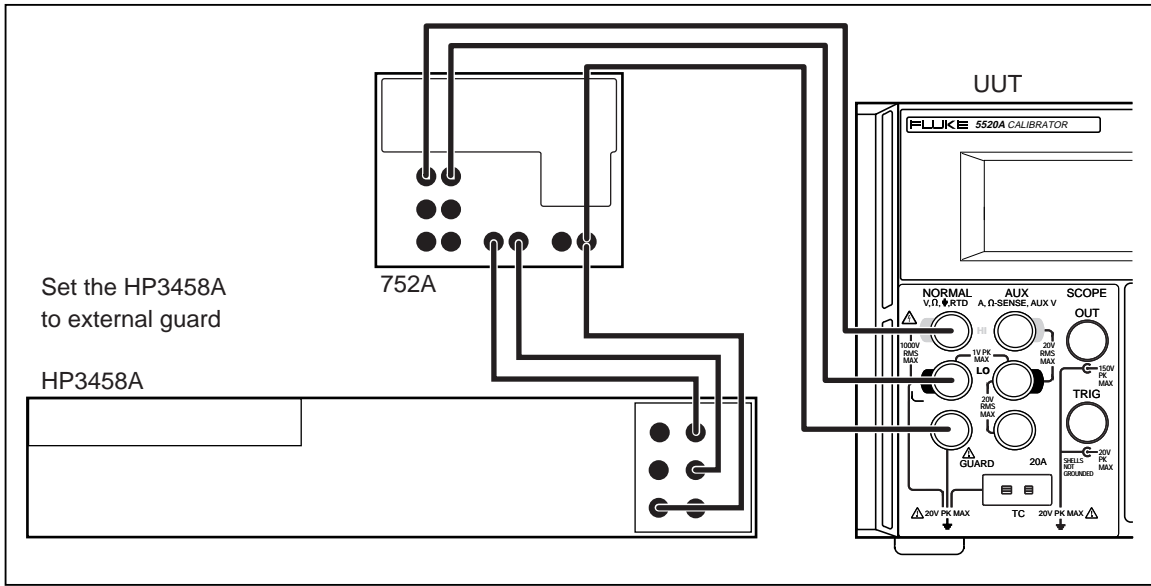

Figure 3-2. Connections for Calibrating DC Volts 30 V and Above
8. Connect the DMM and Reference Divider to the UUT as shown in Figure 3-2.
2. Connect the 5520A (unit under test), 752A, and HP3458A as in Figure 3-2. Make sure that the ground to guard strap on the 752A is not connected.